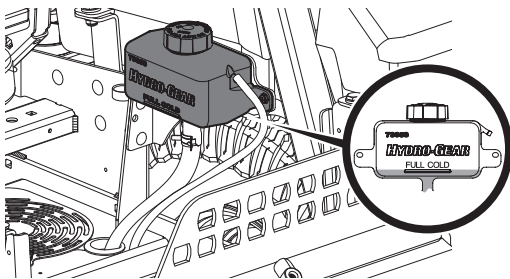

Fig. 44
2. Turn the reservoir cap counterclockwise to remove, then check the oil level in the reservoir. Oil should be visible at the bottom of the cup, but the oil level must NOT be above the "FULL COLD" line (Fig. 44). DO NOT FILL THE RESERVOIR.